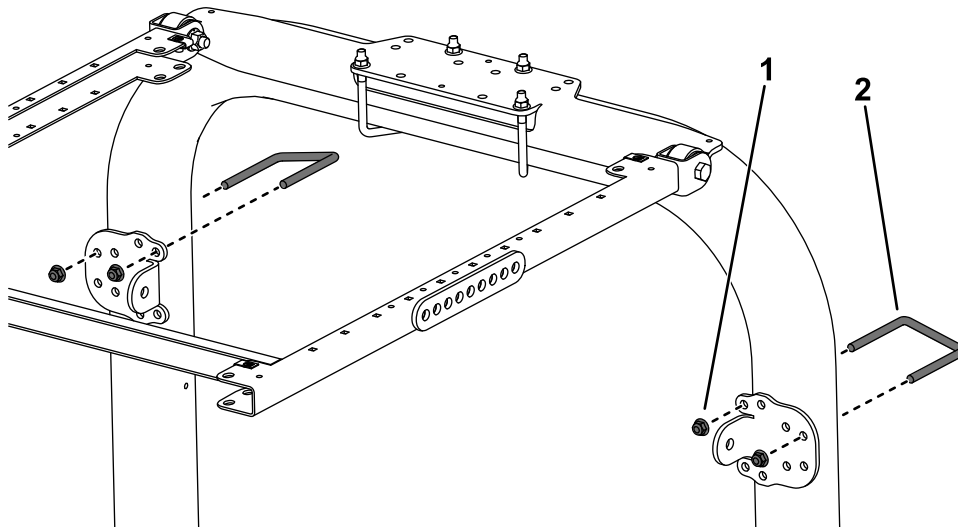

Figure 4
4. Using the mounting holes shown in Figure 4, loosely secure each of the brace brackets to the roll bar posts with a U-bolt (3-7/8 x 4 inches) and 2 flange nuts.